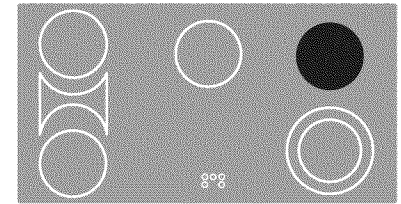

Figure 2
2. Push in and turn the control knob counterclockwise (See Figure 2) for smaller cookware or clockwise (See Figure 7) for larger cookware.